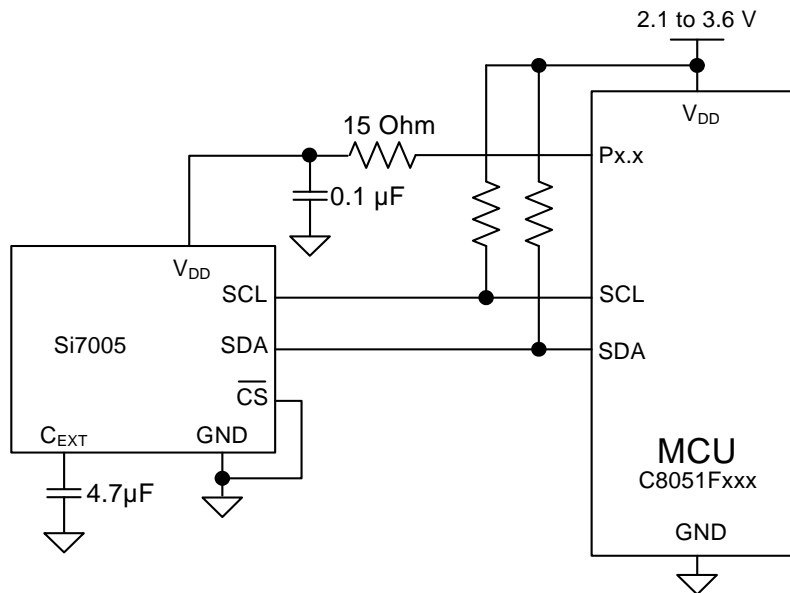

Figure 4. Recommended Connection Diagram for Low-Power Battery Operation
2. Power the Si7005 off of a GPIO as described in “6. Si7005 Connection Diagrams” of the Si7005 data sheet (see Figure 4 below).